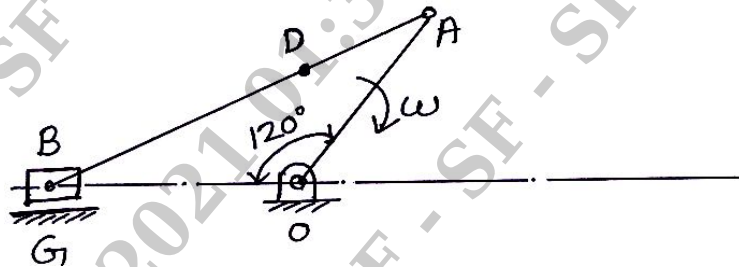

Fig. Q3
- 3 Fig. Q3 shows configuration diagram of an engine mechanism. The dimensions are the following : Crank OA = 200 mm, Connecting rod AB = 600 mm; Distance of centre of mass from Crank end AD = 200 mm. At the instant, the crank has an angular velocity of 50 rad/s clockwise and an angular acceleration of 800 rad/s2. Calculate the